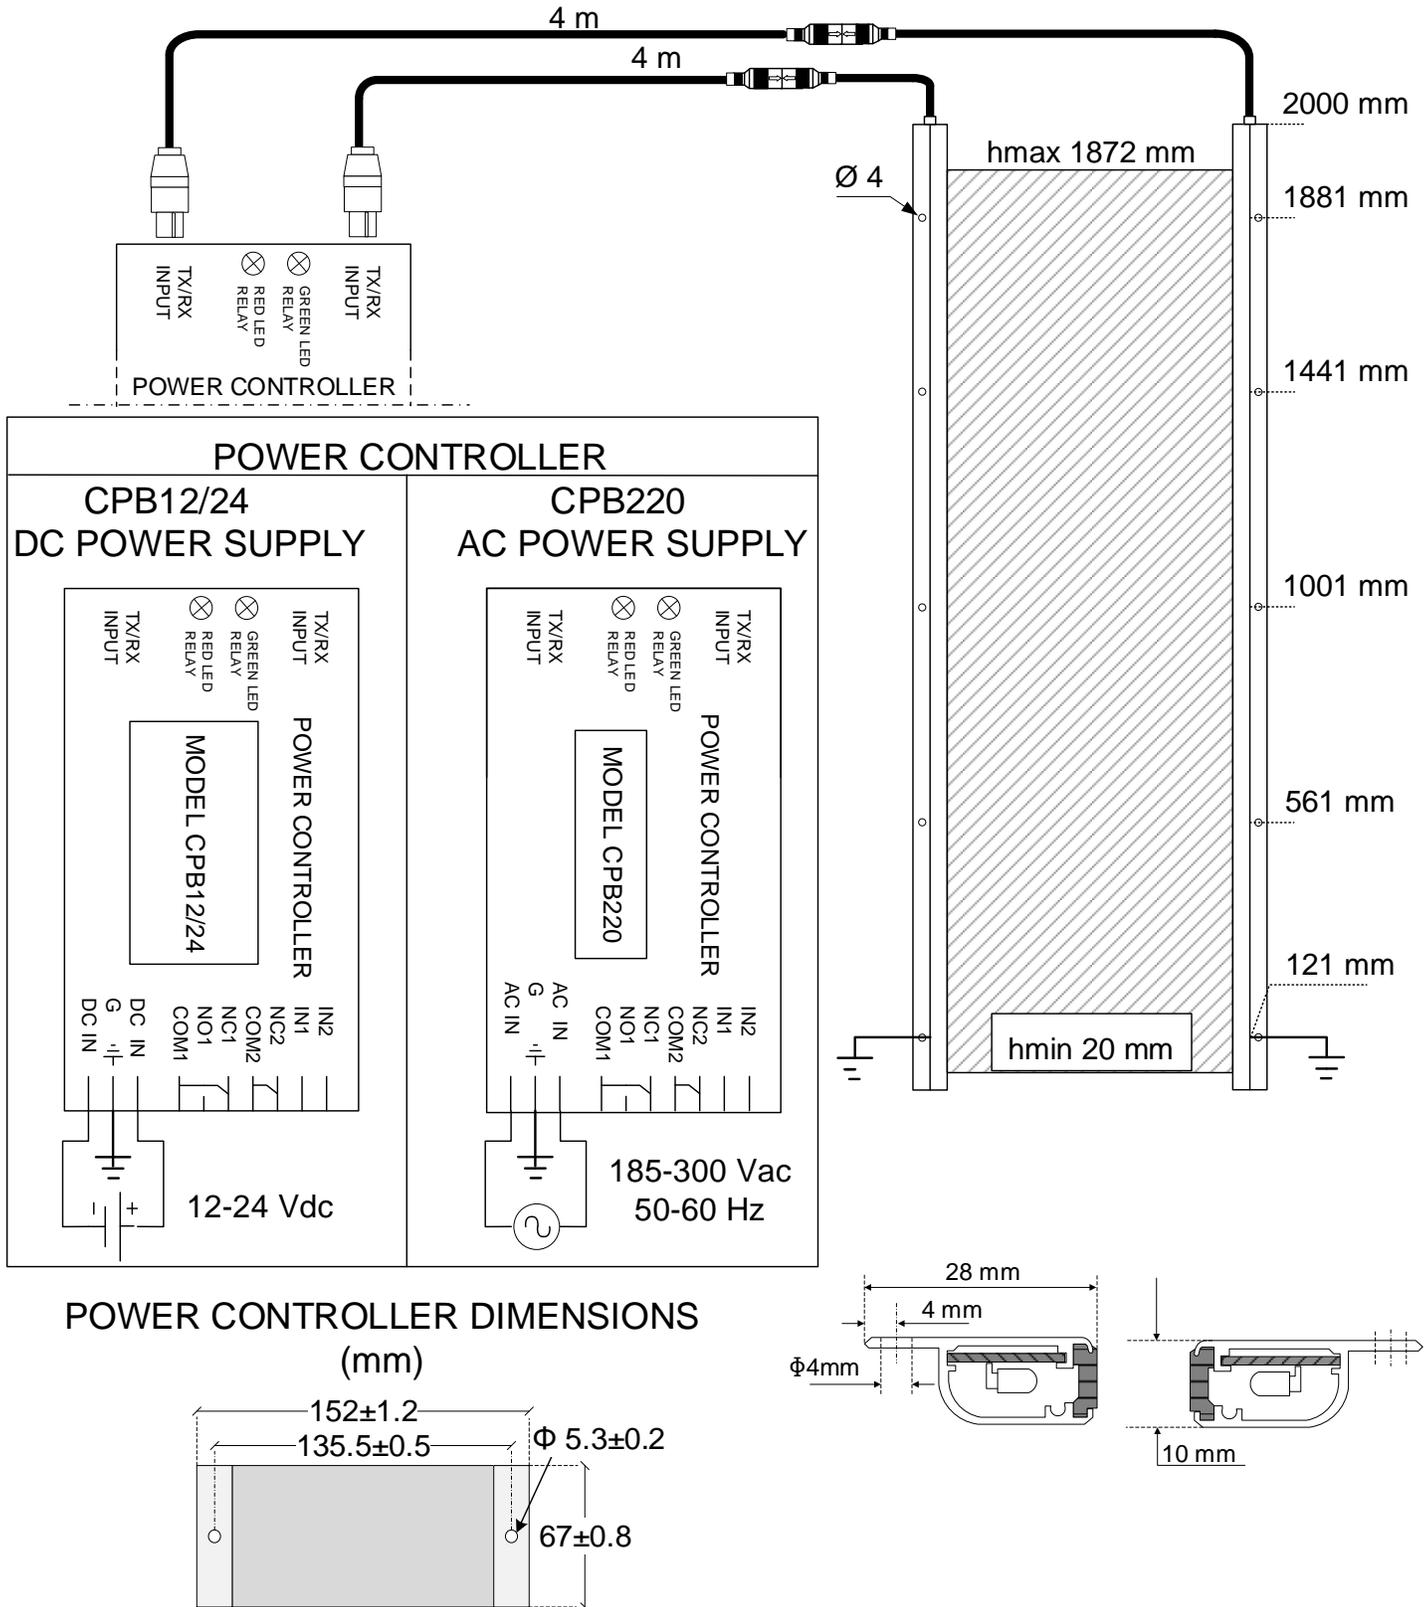

Fig.1 [IT] Montaggio e collegamento / [EN] Mounting and connection / [FR] Installation et branchement
5. Collegare i cavi RX e TX della barriera come mostrato in Fig.1;
8. Collegare la tensione di alimentazione opportuna: vedi Fig.1.
5. Connect Rx and TX cables as shown in Fig.1;
8. Connect the appropriate power supply: see Fig.1;
5. Brancher les câble comme en Fig.1 ;
8. Branchez la tension d'alimentation appropriée. Voir Fig.1